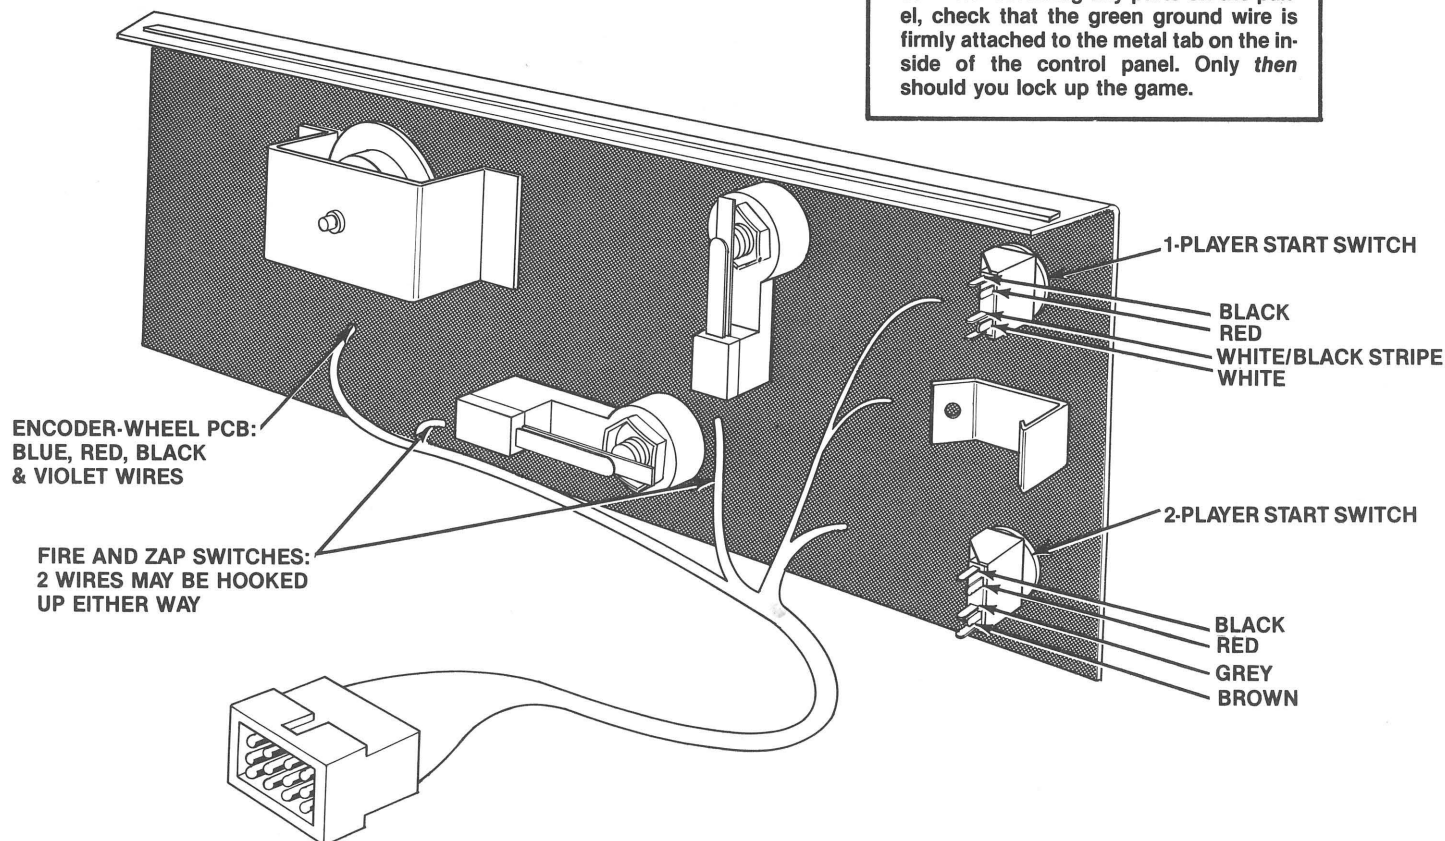

Figure 11 Control Panel Wiring
- Connect multimeter leads to appropriate LED switch contacts (see Figure 11 for designation of switch contacts and meter lead placement).